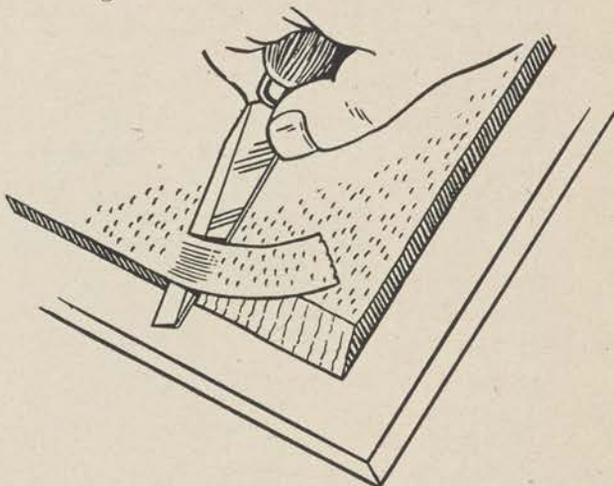

Figure 17.
b. Skiving is the process of shaving the edge of a piece of leather with a beveled cut (fig. 17). It is done with the same type of knife illustrated. The